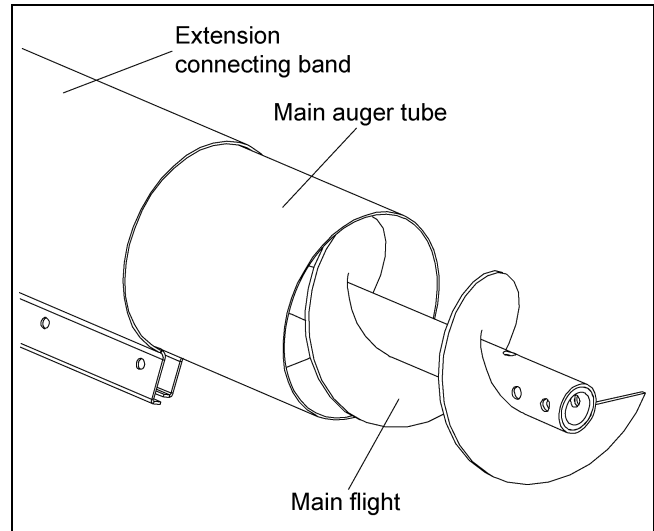

Figure 4L
1. Begin by sliding the extension connecting band onto the main auger tube. (See Figure 4L.)